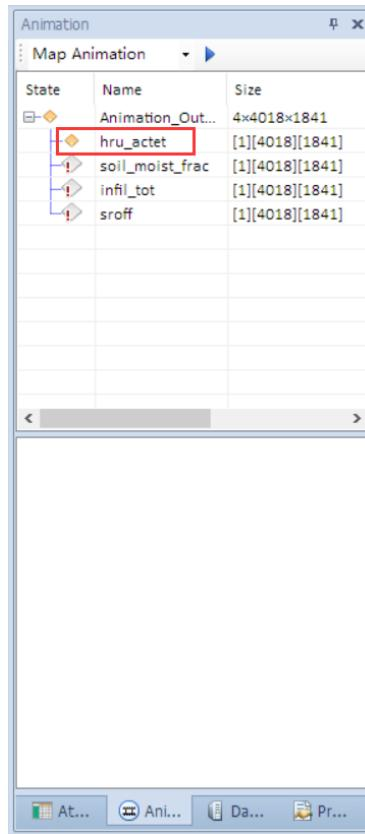

Figure 8-14. Animation docking panel.
- 3) Right click on the “hru_actet” item and select “Animate...”, then the Animation docking panel appears (Figure 8-14).